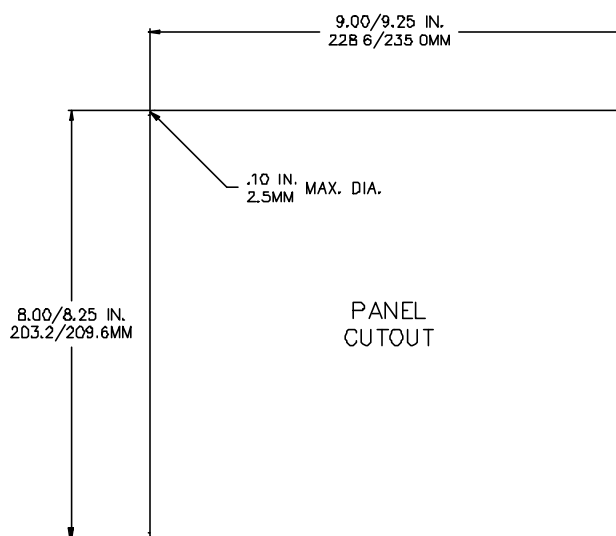

Figure 2-10: 660, 661 and 662 Panel Mount Cut-Out
1. Make a cut out in the panel using the dimensions shown in Figure 2-10.